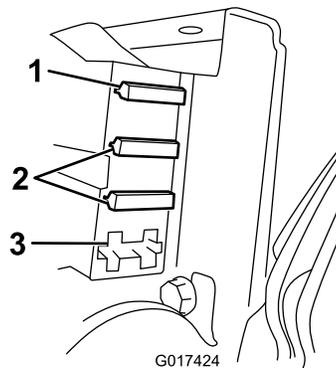

Figure 36
3. Check the fuses in the fuse block (Figure 36).
4. If any fuse is blown, replace them with a fuse of the appropriate voltage and amperage (Figure 36).